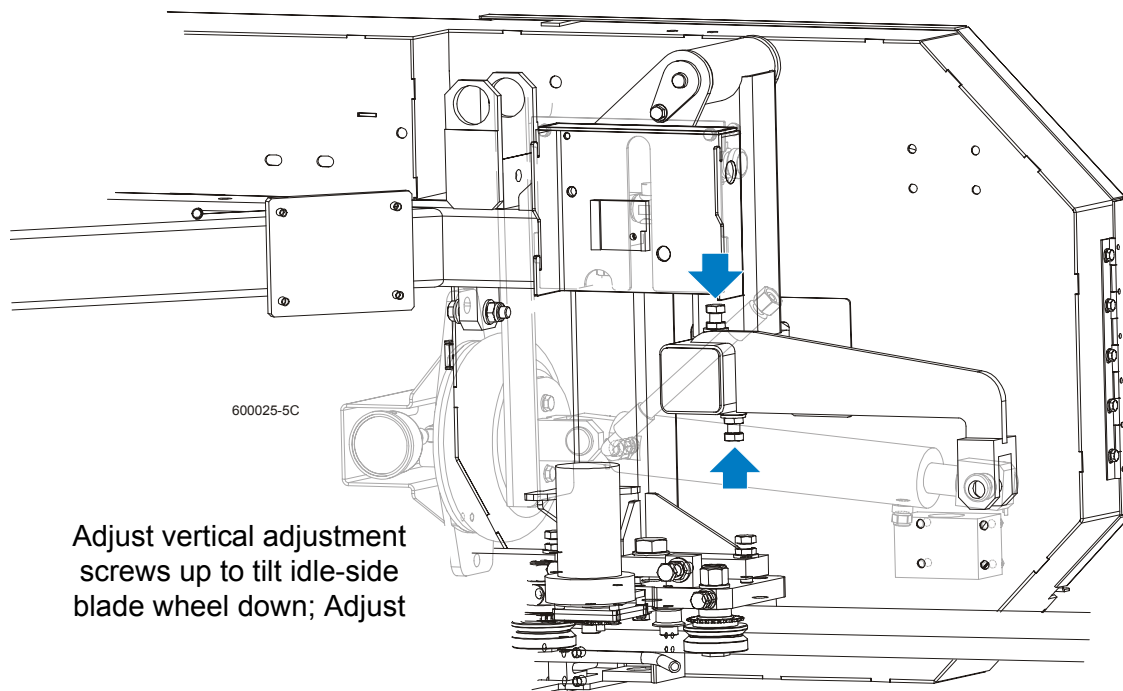

**FIG. 7-17**
**See Figure 7-17.** Use the vertical adjustment screws to adjust the drive-side blade wheel. To tilt the wheel down, loosen the top adjustment screw one quarter turn. Loosen the jam nut on the bottom adjustment screw and tighten the screw. Tighten the top and bottom jam nuts.